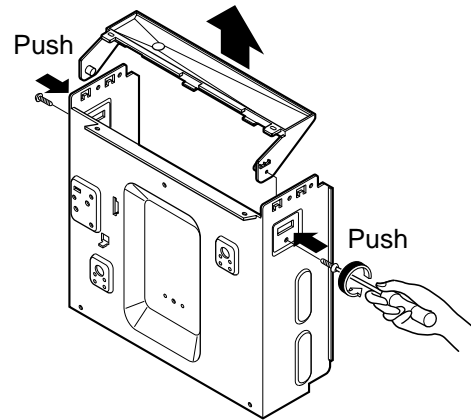

Figure 13
3. Remove drain pan by unhooking both sides slots. (See Figure 13)